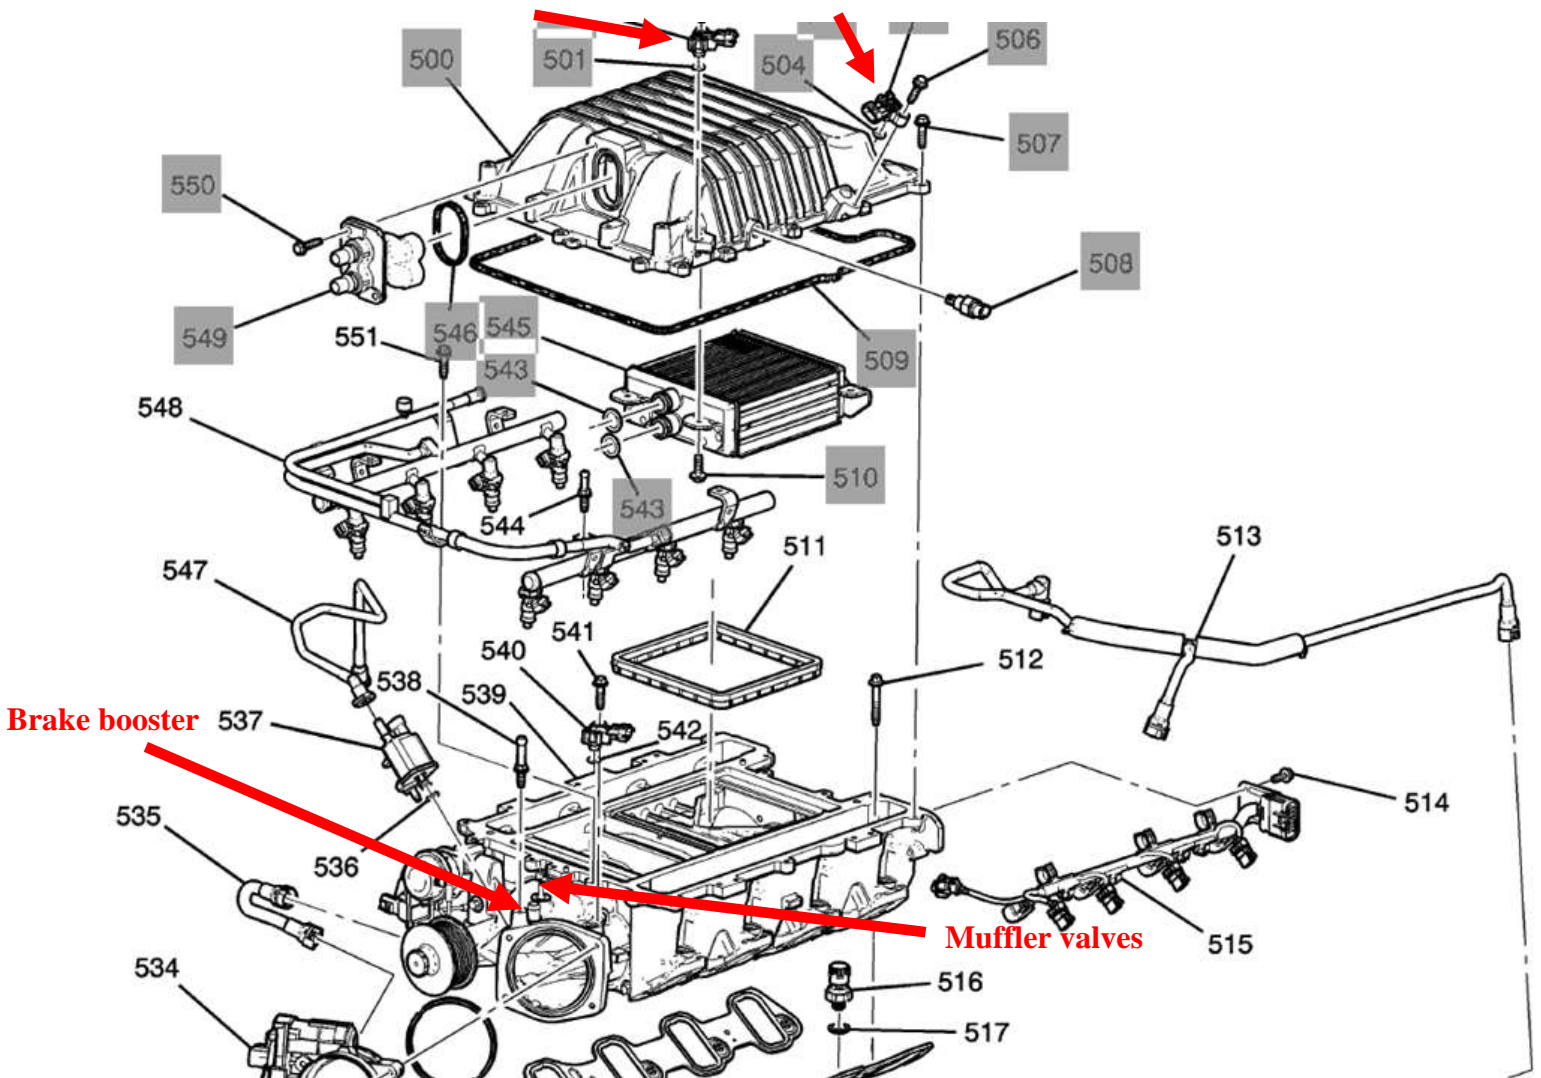

Figure 1: Parts reference for connector removal
8. Disconnect all hoses and wires that are attached to the supercharger assembly (reference figure 1 below). You will start by unclipping the harness connector and the EVAP hose attached to the EVAP solenoid. Then you will remove the solenoid (537).
- Disconnect the intake air temperature sensor (506).
- Disconnect the supercharger inlet pressure sensor (540).